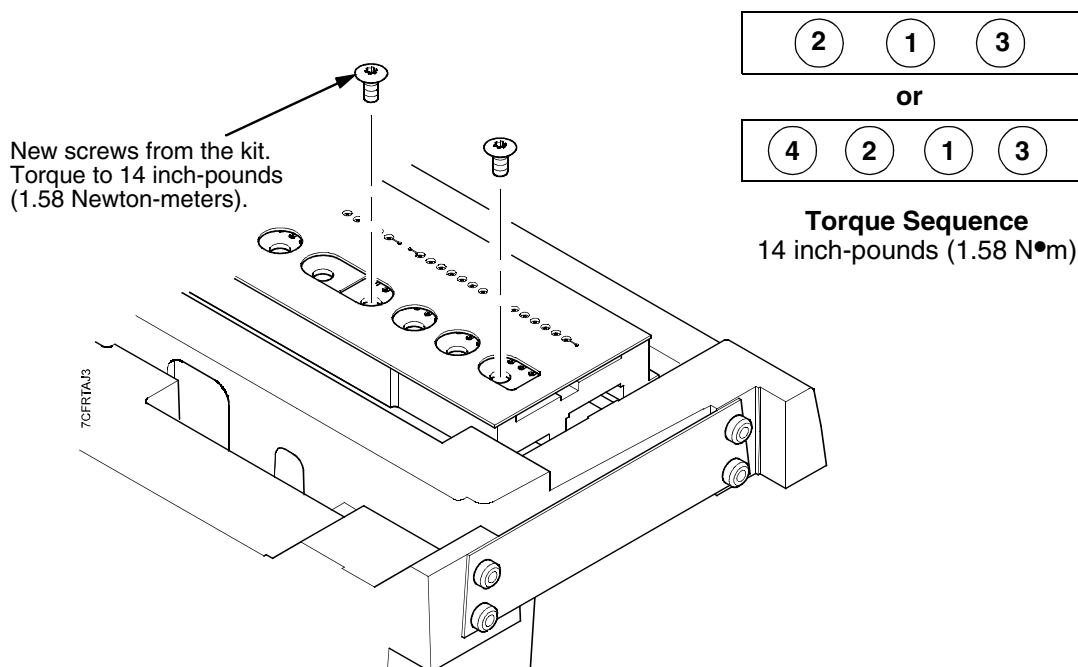

Figure 32. Installing the Torx T-10 Screws
6. Continue to apply a slight downward pressure on the tool and install the mounting screws in the hammer spring assemblies. Depending on the printer model, there will be three or four mounting screws per assembly. Torque the inner screw(s) to 14 in-lbs (1.58 N•m), then torque the outer screws to 14 in-lbs (1.58 N•m). (See Figure 32.)